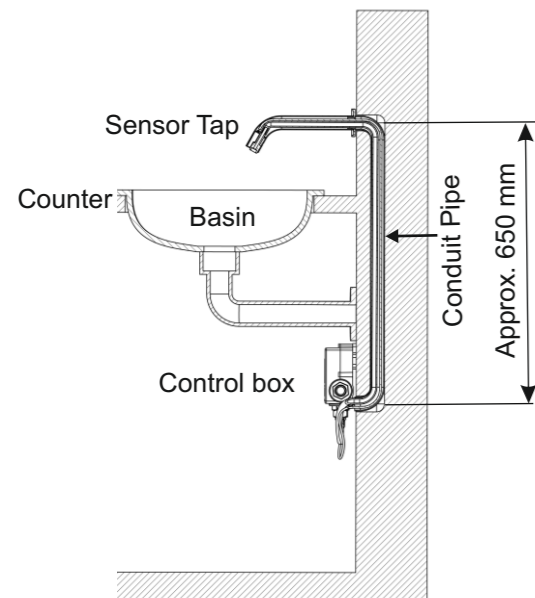

Figure 1
- 2) A conduit pipe needs to be provided in the wall as shown in Figure 1 for passage of the sensor wire and water supply pipe. The conduit pipe outer diameter should not be more than 1.25" or 31.75 mm. The control box of the sensor faucet is installed below the counter as shown. The vertical distance between the upper and lower conduit openings on the wall ideally should be about 650 mm or less so that the sensor wire and water supply pipe can be fitted properly. If this distance is more than 650 mm, then verify that the water supply pipe and sensor wire do not fall short for connections between the sensor tap and control box.